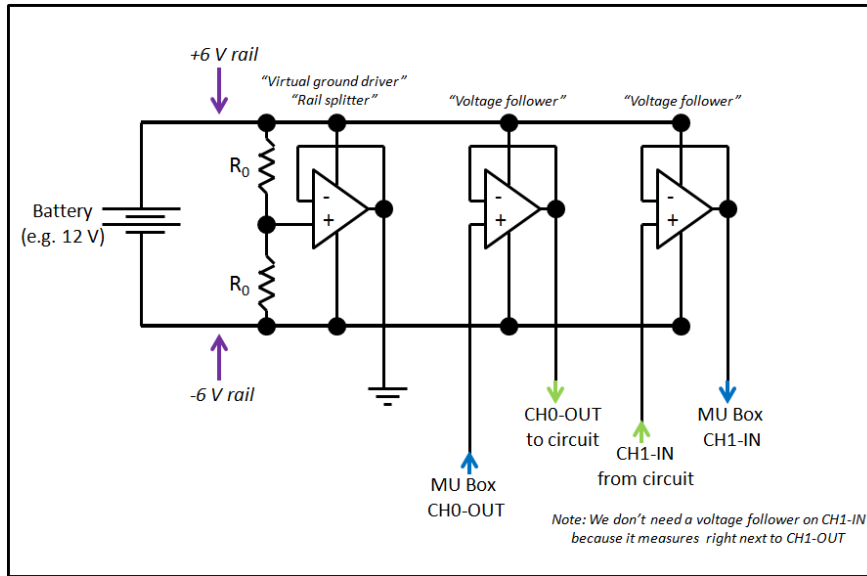

Figure 3: Circuit to power the op-amps. We split the battery voltage to power the op-amps using a voltage divider (e.g. $R_0 = 1[\text{k}\Omega]$).
Your breadboard will have two main interconnected circuits: A circuit to power your op-amps, and a circuit to measure a test impedance. Please study both parts of the circuit (Figs. 3 and 4) before you begin, so you can plan your breadboard accordingly.
1. **Op-Amp circuit:** Build the Op-amp breadboard that we will use to measure the loudspeaker impedance, as described below and shown in Figure 3. The purpose of the Op-amps is to isolate the measurement from the finite impedance of the MU box. The circuit diagrams of the MU box are provided in the 'DOC' folder of the software package. Based on these circuit diagrams, one may determine the Thévenin source impedance of the output voltage, and the input (load) impedance of the input circuits. There are two critical op-amps, one for output
- (b) Drive the circuit from CH0-OUT of the MU-box. *NOTE: If you do not use an Op-amp with a low impedance output (0 [ohms]), as described in Fig. 3, your results will not be as good as they could be.*